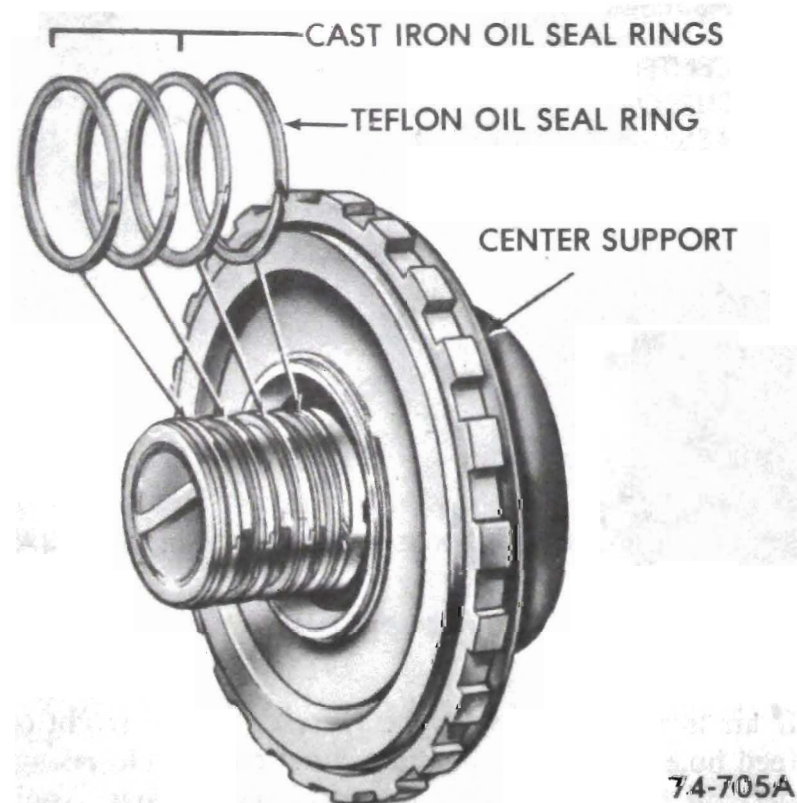

Figure 76-218
1. Remove three (3) hook type cast iron oil seal rings from the center support. Do not remove the teflon oil seal ring unless replacement is required. All Service center support oil seal rings are hood type cast iron. See Figure 76-218.
7. Install three (3) hook type cast iron oil seal rings on the center support if the teflon ring was not removed. If the teflon ring was removed, install four (4) hook type cast iron oil seal rings. See Figure 76-218.